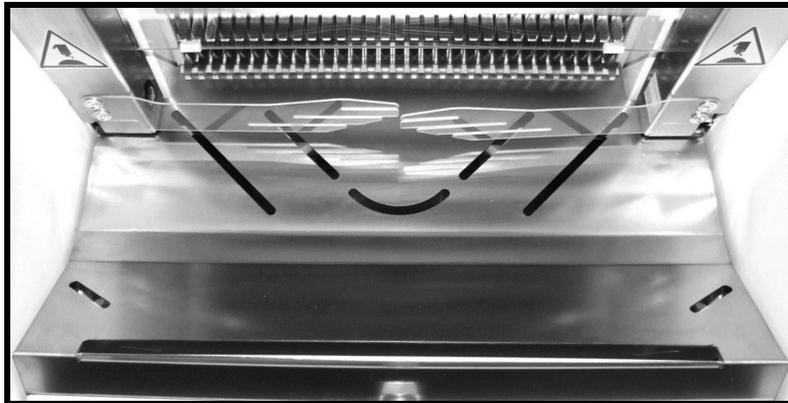

Figure 19
- **risk of accidentally getting fingers stuck** in the slits on the cut bread unloading surface, Figure 19. If this should happen, an unusual or impulsive movement of the hand could result in painful pulling/twisting of the fingers. However, the slits must be left unobstructed so that crumbs and residue cannot build up and “pollute” the next loaves to be cut. The risk is, however, very low, also because the person would realise immediately that his/her fingers were nearing the slits and would take them away instantly.